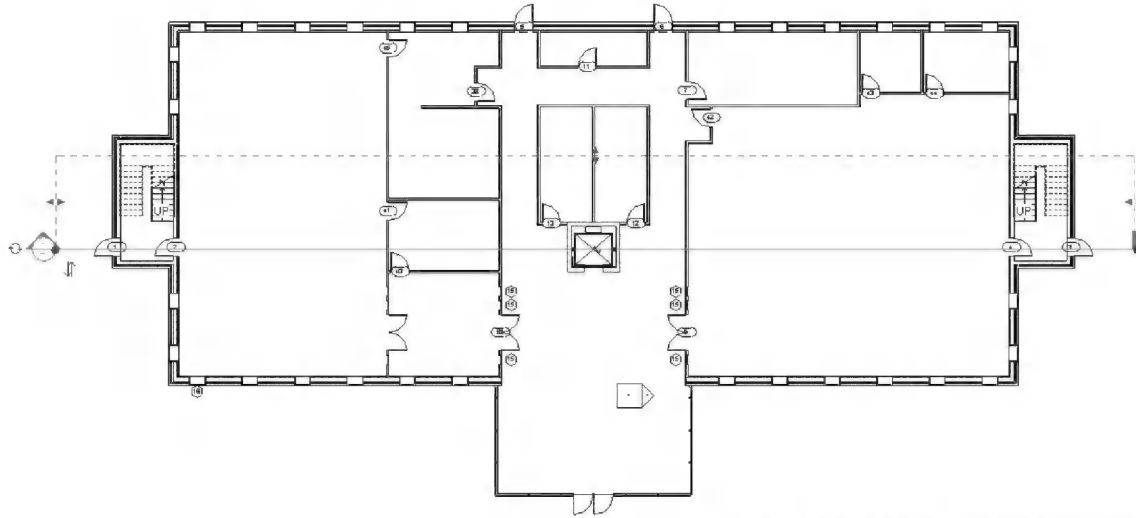
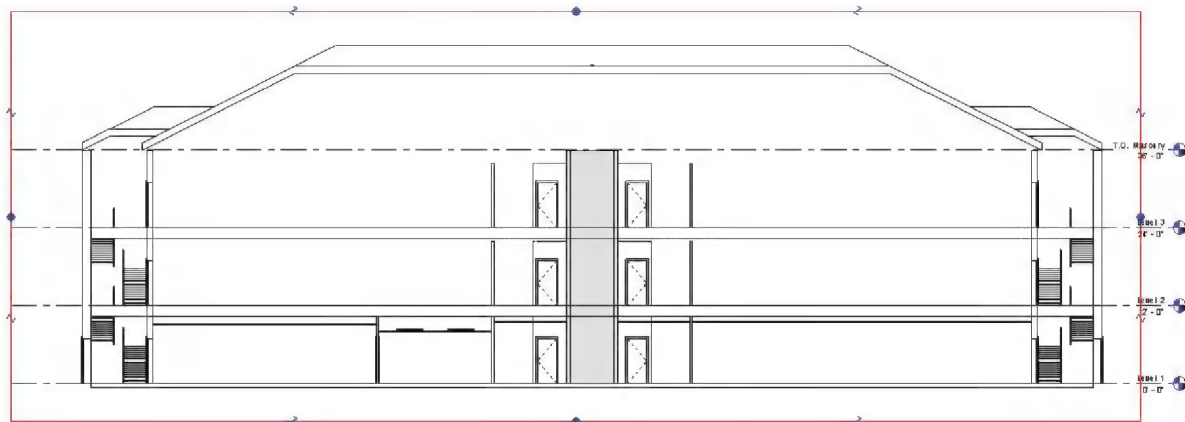

FIGURE 10-1.1 Section tag (selected)
FIGURE 10-1.2 Longitudinal section view
4. Draw a Section tag as shown in Figure 10-1.1. Start on the left side in this case. Use the *Move* tool if needed to accurately adjust the section tag after insertion. The section should go through the doors in the stair shaft (Figure 10-1.1).
Figure 10-1.1 shows the section tag selected. The section tag features are very similar to the elevation tags covered in the previous lesson. You can adjust the depth of view (*Far Clip Plane*) and the width of the section with the *Adjustment Grips*.
6. Switch to the **Longitudinal Section** view (Figure 10-1.2).
You can see that the stairs are cut off on the back side because of the *Far Clip Plane* location in the plan view (Figure 10-1.1). Also, you can see the roof is shown in section exactly where the section line is shown in plan. Figure 10-1.2 also shows the *Crop Region*.